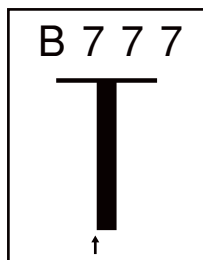
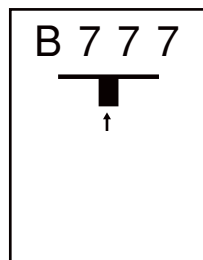

Fig.9
Fig.10
- (1) When the approaching aircraft is within 20 meters from the stopping position, the shaft of the illuminated "T" will start to reduce in its length from the bottom to indicate the approaching rate of the aircraft, indicating the remaining distance to the stopping position successively. (Fig.9, Fig.10) As the aircraft approaches the stopping position, the shaft of the illuminated "T" retract one row for every 0.3 m.